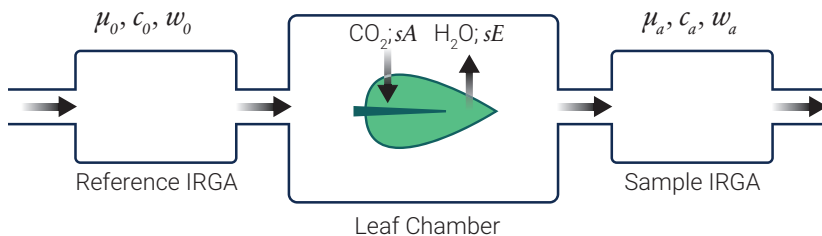

Figure 7. Schematic of an open gas exchange system for leaf-level photosynthesis measurements.
The LI-6800 is an open gas exchange system (4) that measures many parameters needed to estimate photosynthetic gas exchange. The gas exchange system measures the flow rate ($\mu\text{mol air s}^{-1}$) entering the leaf chamber (μ_0) and the CO_2 and H_2O concentrations entering (c_0 and w_0 , respectively) and exiting (c_a and w_a , respectively) the leaf chamber (*Figure 7* below).